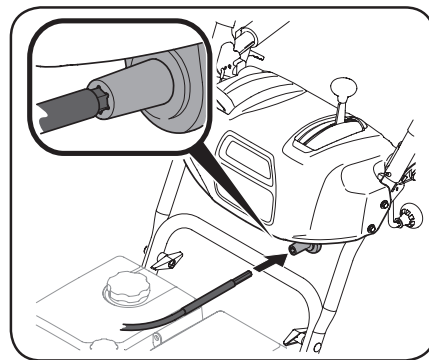

Figure 2-35
6. Insert hex end of flex shaft into chute control rod coupling under dash panel. See Figure 2-35.